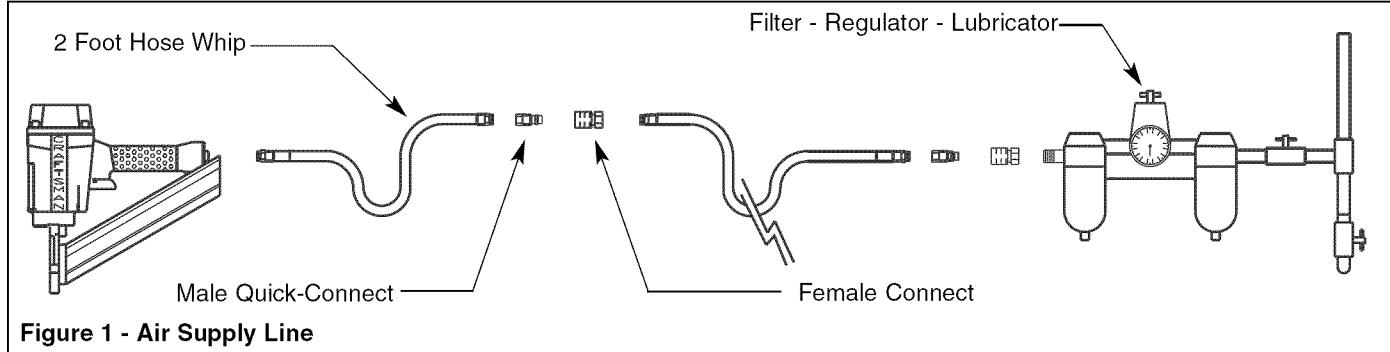

Figure 1 - Air Supply Line
Refer to Figure 1 (page 3).
- A filter-regulator-lubricator system is required and should be located as close to tool as possible (see Figure 1). A distance of less than 15 feet is recommended.